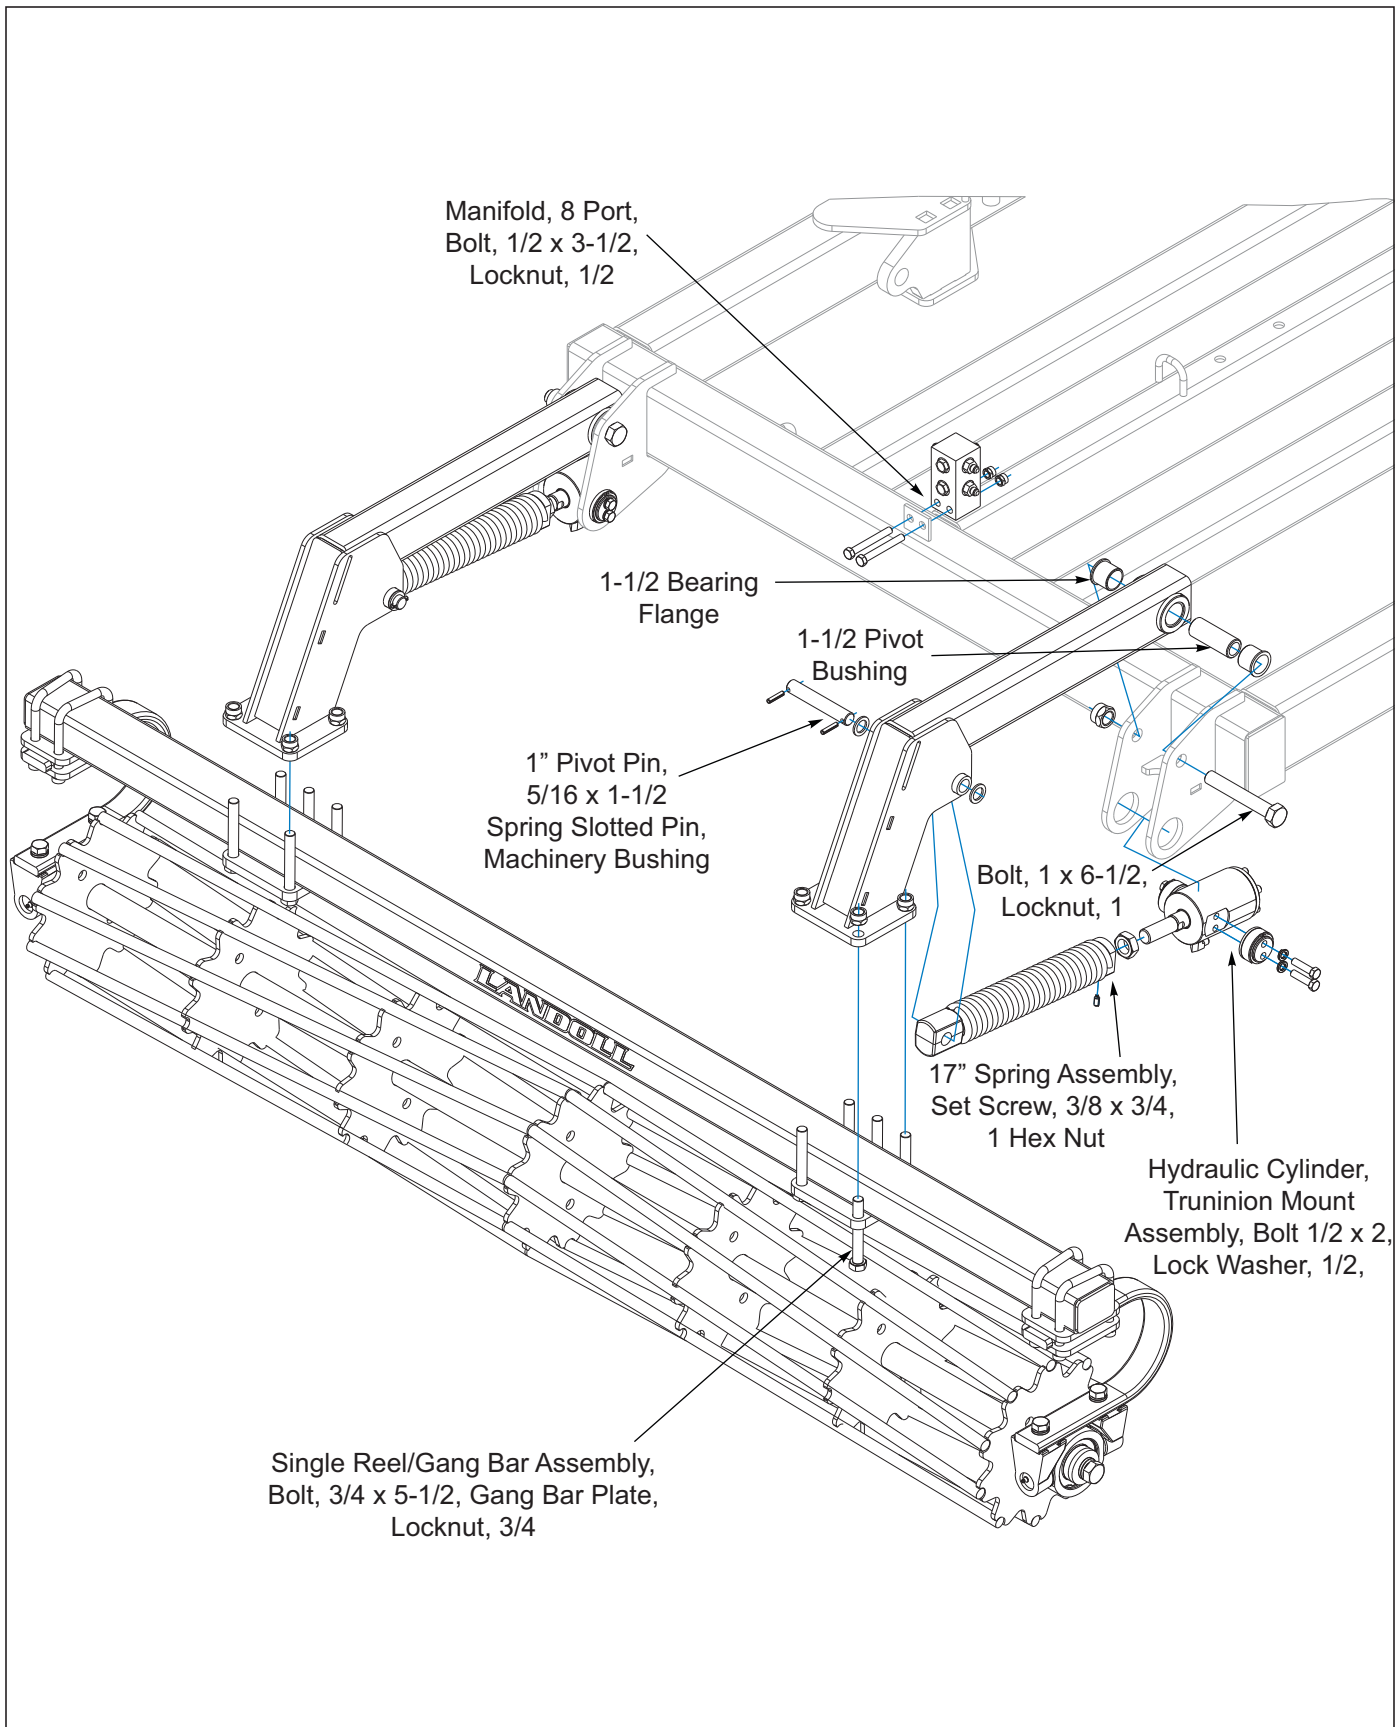
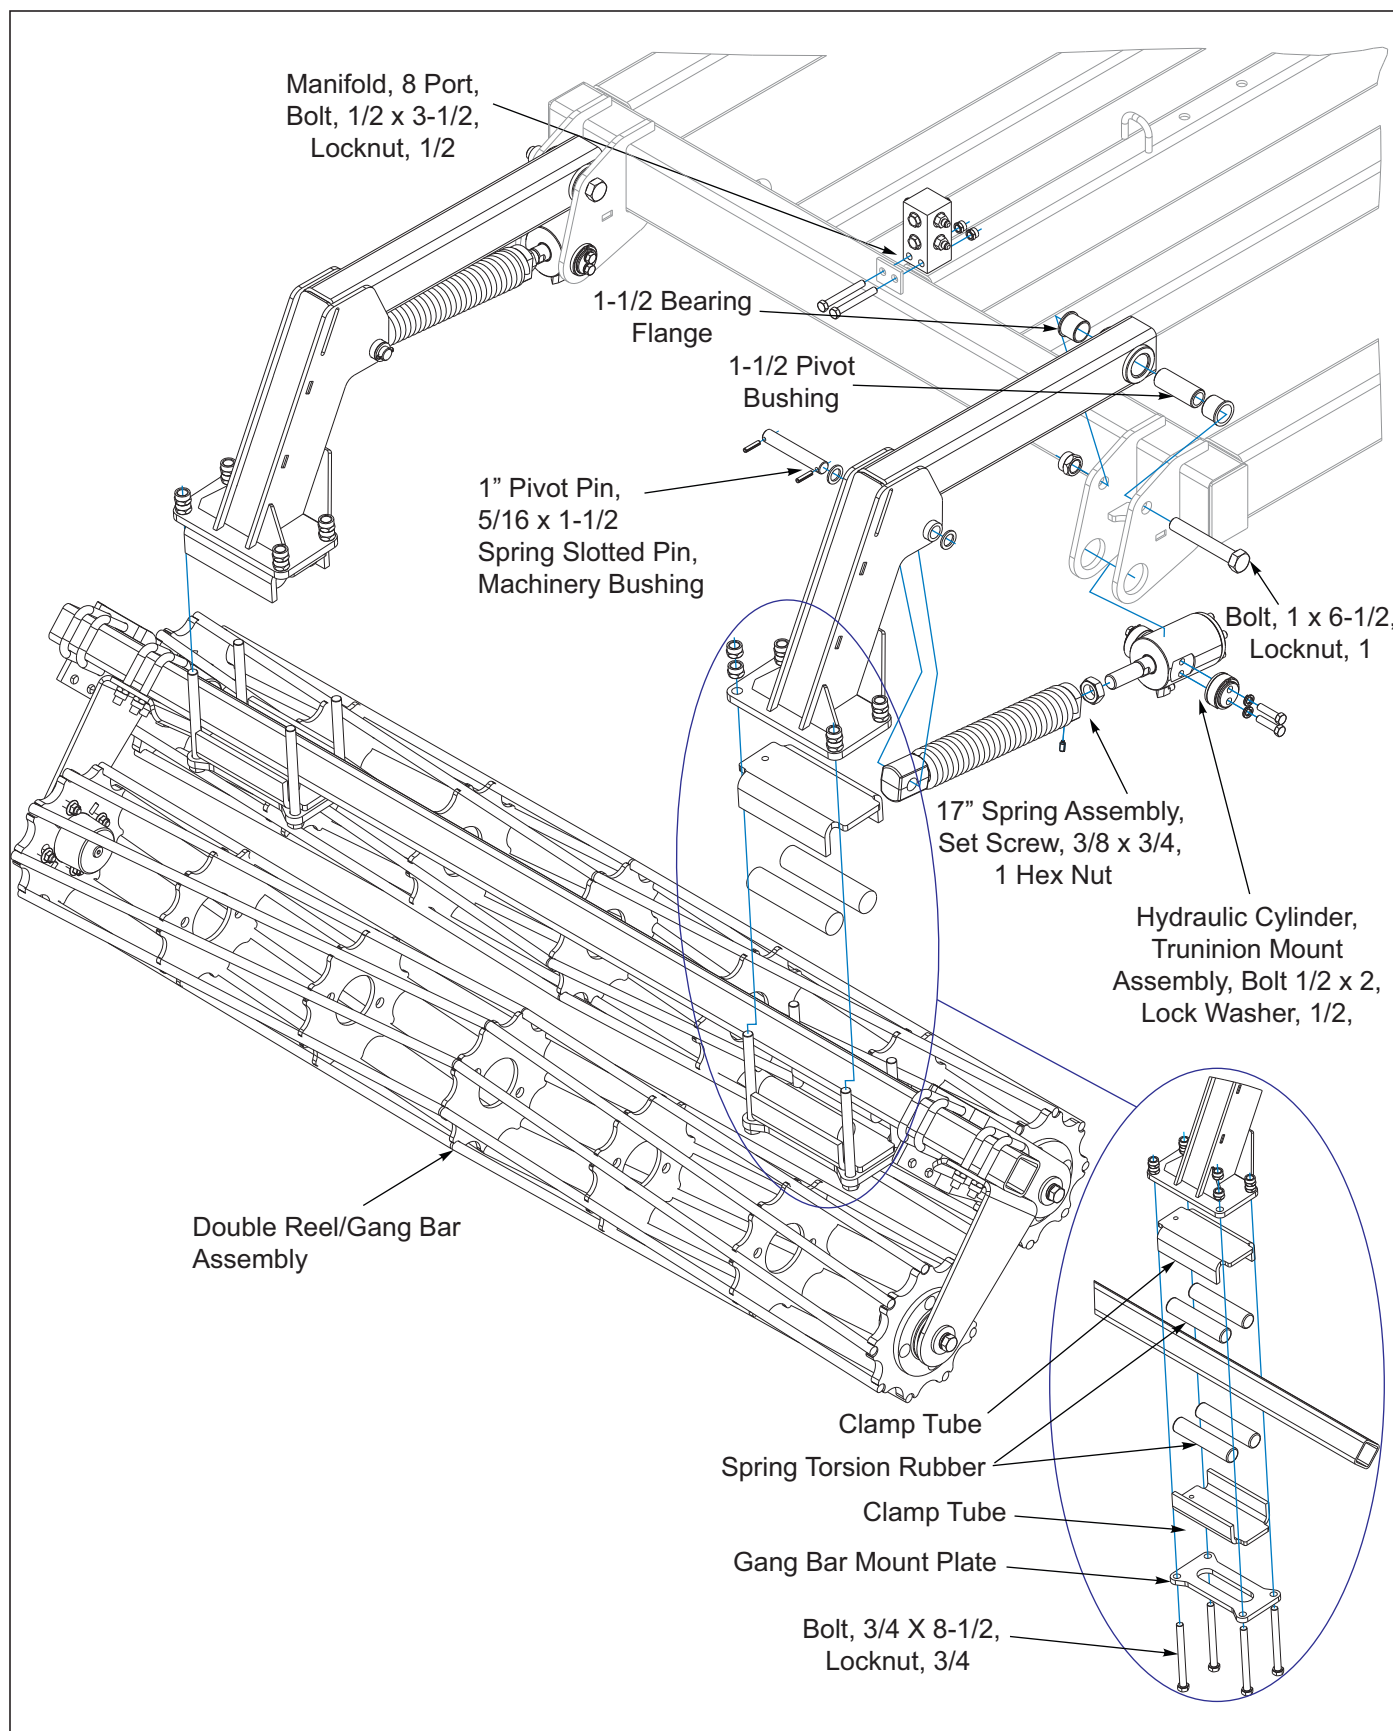

Figure 3-13: Hydraulic Conditioner Reel Single Installation
Figure 3-14: Hydraulic Double Reel Installation
Refer to *Hydraulic Conditioner Single Reel Installation* See Figure 3-13 for single reel installation or *Hydraulic Conditioner Double Reel Installation* See Figure 3-14 for double reel installation.
3. Attach single reel/gang bar assembly to reel arms using gang bar mount plate, 3/4-10 x 6 hex head cap screws and double hex lock nuts See Figure 3-13. See Figure 2-3 through See Figure 2-4 for single reel gang bar placement locations.
4. Attach double reel/gang bar assembly to reel arms using gang bar mount plate, (2) clamp tubes, (4) spring torsion rubber, secure with 3/4-10 x 8-1/2 hex head cap screws and double hex lock nuts See Figure 3-14. See Figure 2-5 through See Figure 2-6 for double round and flat reel gang bar placement locations.